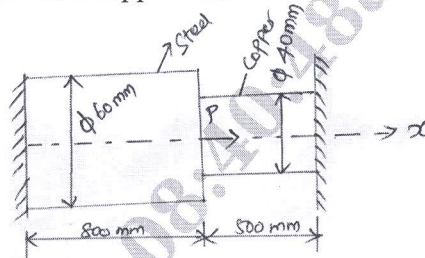

Fig. Q5 (a)
- 5 a. Consider the bar shown in Fig.Q5 (a), using Penalty method of handling boundary condition. Determine the nodal displacement stress in each element. Due to applied force $P = 100 \text{ kN}$. Take steel $E = 200 \text{ GPa}$ copper $E_{CV} = 100 \text{ GPa}$.